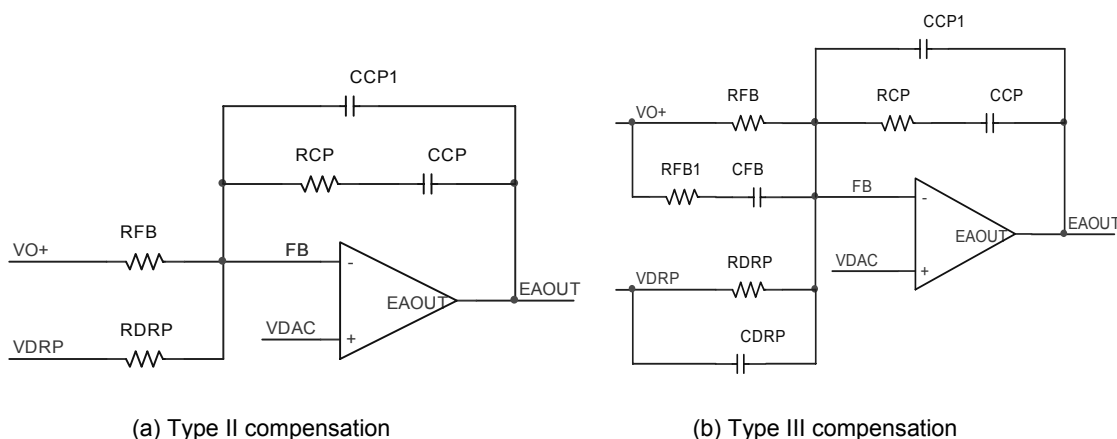

Figure 12. Voltage loop compensation network
Resistors  $R_{FB}$  and  $R_{DRP}$  are chosen according to Equations (15) and (16), and the selection of compensation types depends on the output capacitors used in the converter. For the applications using Electrolytic, Polymer or AL-Polymer capacitors and running at lower frequency, type II compensation shown in Figure 12(a) is usually enough. While for the applications using only ceramic capacitors and running at higher frequency, type III compensation shown in Figure 12(b) is preferred.
For applications where AVP is not required, the compensation is the same as for the regular voltage mode control. For converter using Polymer, AL-Polymer, and ceramic capacitors, which have much higher ESR zero frequency, type III compensation is required as shown in Figure 12(b) with  $R_{DRP}$  and  $C_{DRP}$  removed.